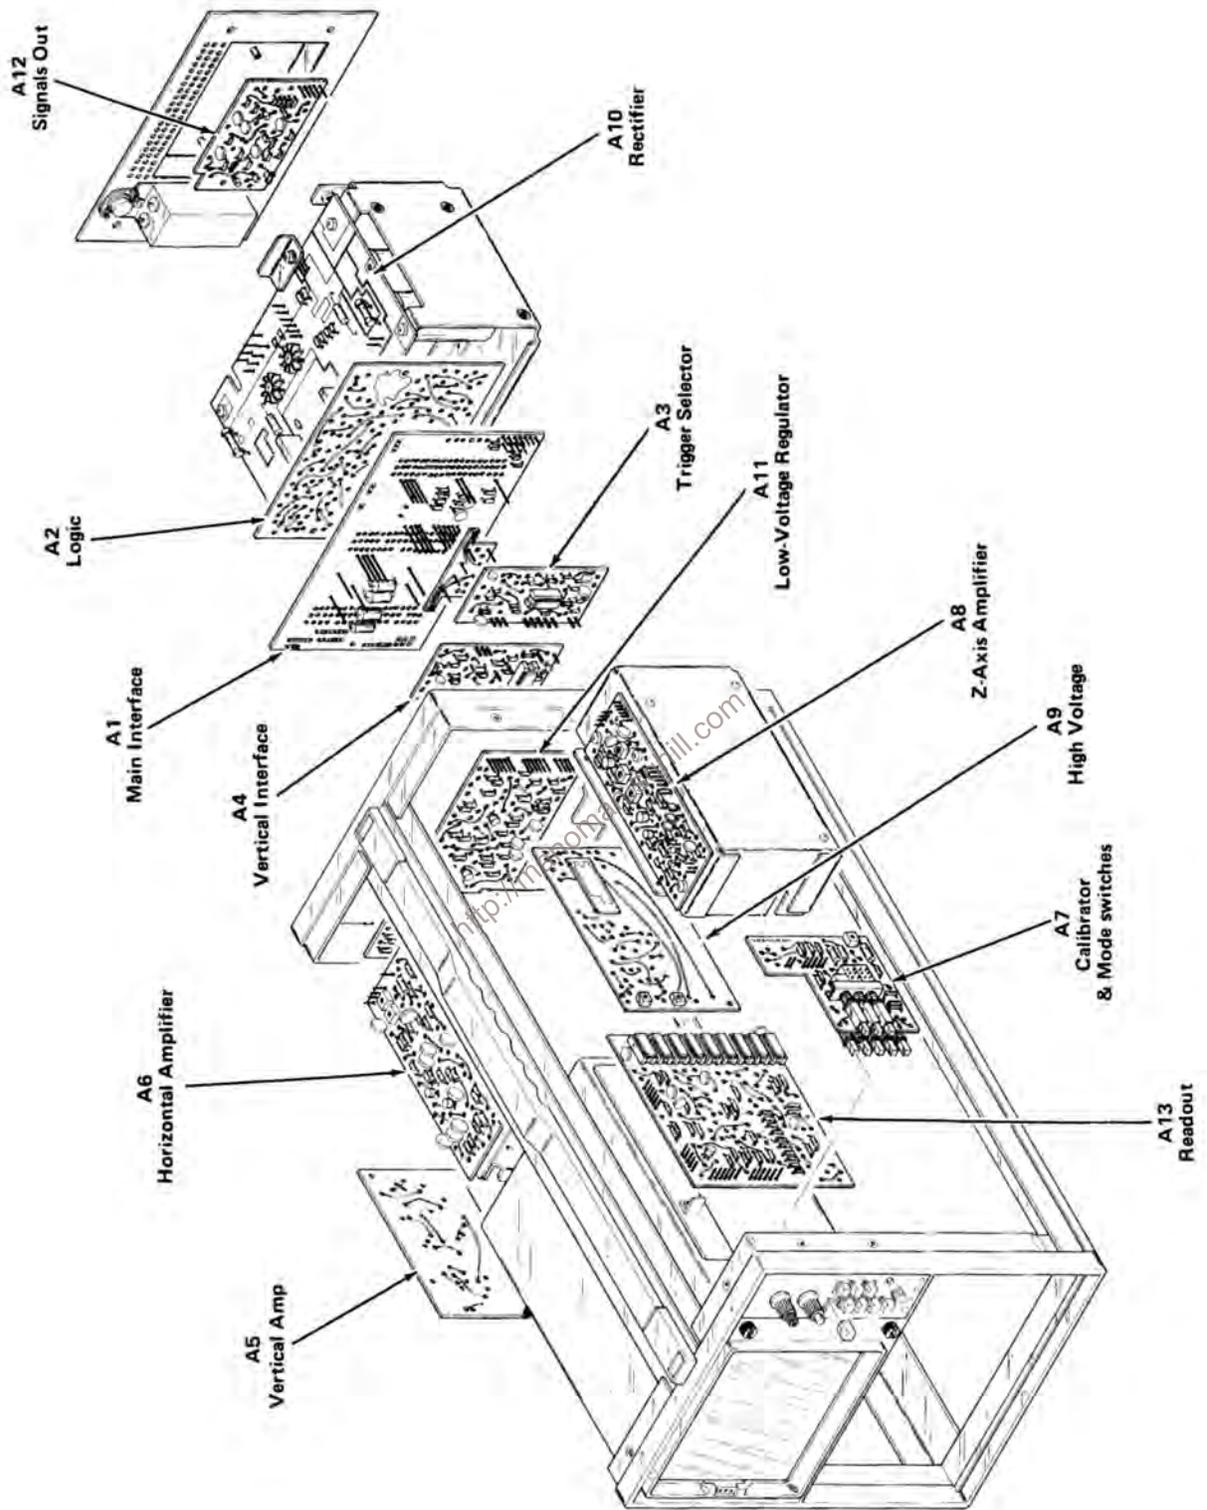
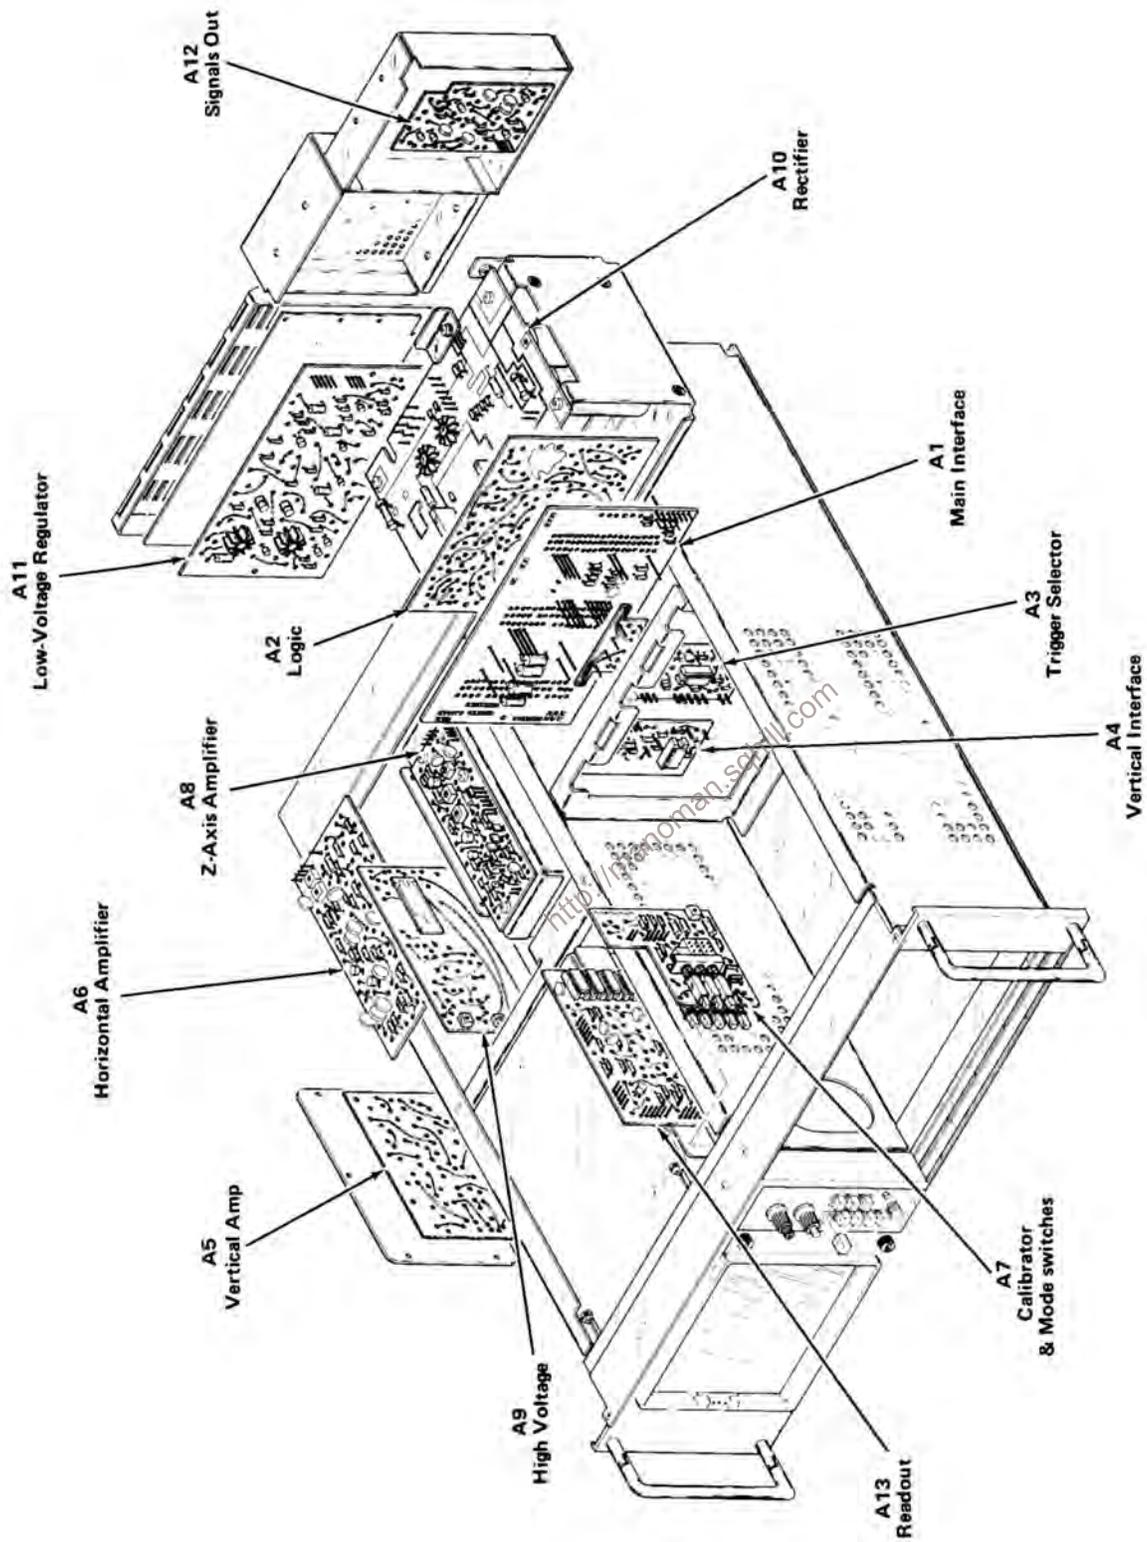

Fig. 5-2. Location of circuit boards in the 7603.
Fig. 5-3. Location of circuit boards in the R7603.
**Circuit Boards.** Fig. 5-2 shows the location of the circuit boards within the 7603; Fig. 5-3 shows the location of circuit boards in the R7603. Pictures of these circuit boards are shown in Figs. 8-1 through 8-10. These pictures are located in the Diagrams section on the back of the page opposite the circuit diagram, to aid the cross-referencing between the diagrams and the circuit-board components. Each electrical component on the boards is identified by its circuit number. The color and location of the interconnecting connectors are also shown. The circuit boards are also outlined on the diagrams with a blue line to show which portions of the circuit are located on a circuit board.
**Resistor Color-Code.** In addition to the brown composition resistors, some metal-film resistors and some wire-wound resistors are used in the 7603. The resistance values of wire-wound resistors are usually printed on the body of the component. The resistance values of composition resistors and metal-film resistors are color-coded on the components with EIA color-code (some metal-film resistors may have the value printed on the body). The color-code is read starting with the stripe nearest the end of the resistor. Composition resistors have four stripes which consist of two significant figures, a multiplier, and a tolerance value (see Fig. 5-2). Metal-film resistors have five stripes consisting of three significant figures, a multiplier, and a tolerance value.